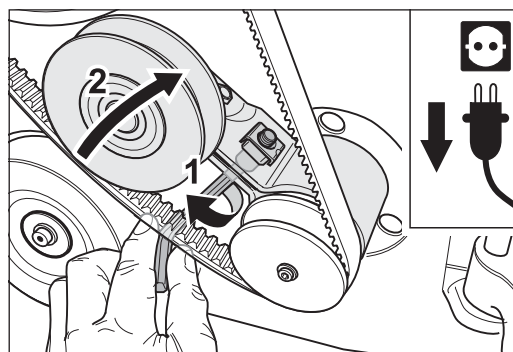

Fig. 105 Open the clamping screw of the belt tensioner (1) and release the tension of the suction V-belt (2).
- 6 Open the clamping screw of the belt tensioner for the suction V-belt (fig. 105, 1)
- 7 Turn the belt tensioner clockwise to release the tension of the suction V-belt (fig. 105, 2).
- 1 Open the clamping screw of the belt tensioner for the suction V-belt (fig. 105, 1).
- 2 Turn the belt tensioner clockwise to release the tension of the suction V-belt (fig. 105, 2).